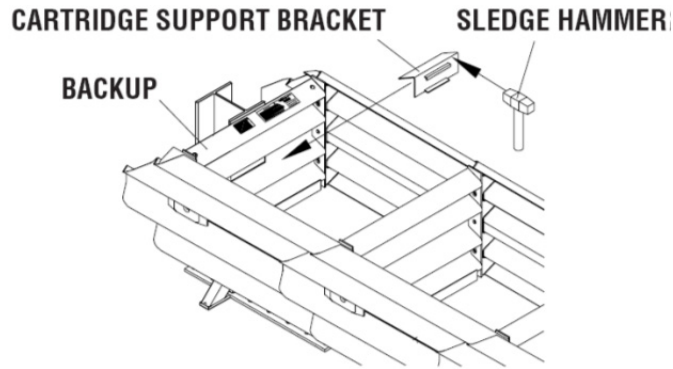

Figure 75
- c. Then, using a sledge hammer and Quad-Beam™ Panel on Backup as an anvil, straighten Cartridge Support Bracket back into 90° shape (see Figure 75).